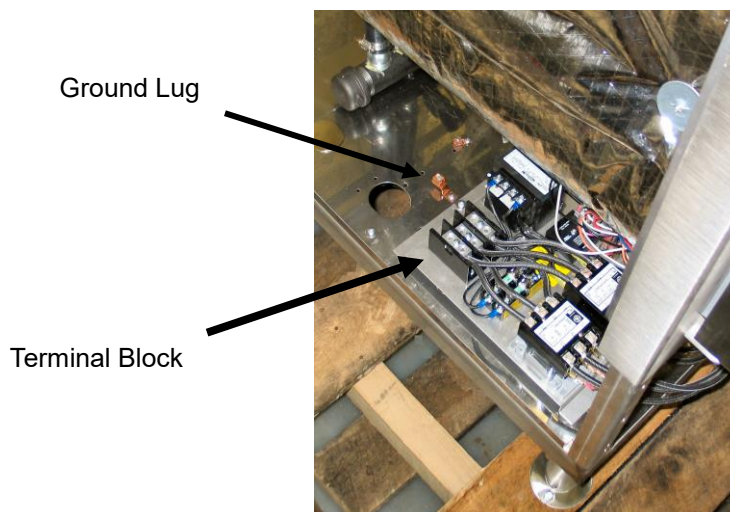

Figure 3-9
3. Make the electrical connection using flexible conduit, per local code. See Figure 3-9.